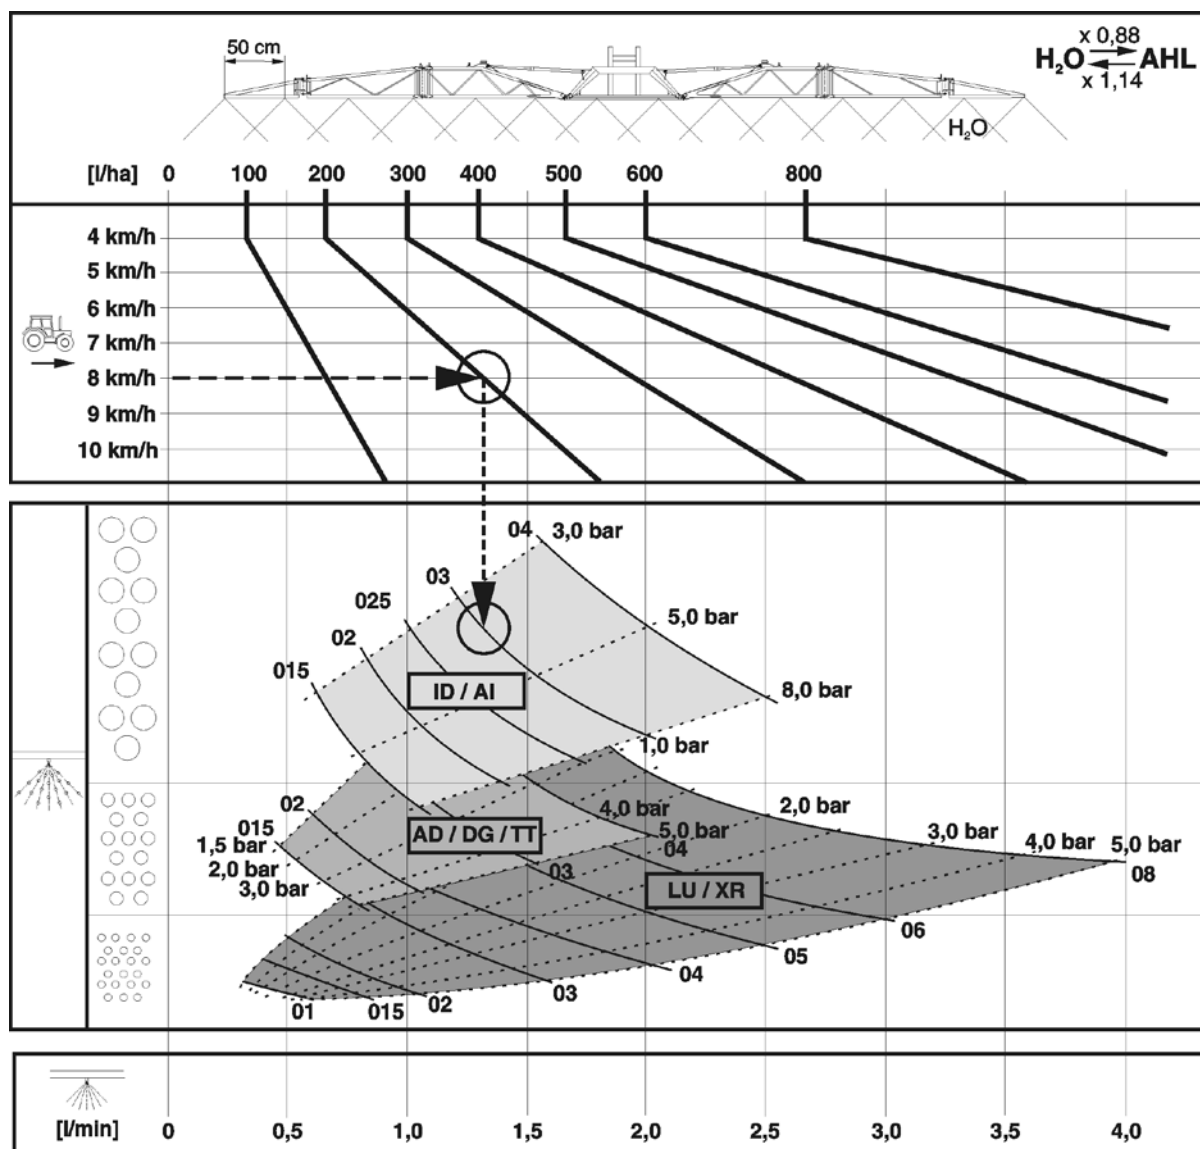

Fig. 191
- Fig. 191 helps with the selection of the right nozzle type. The nozzle type is determined by